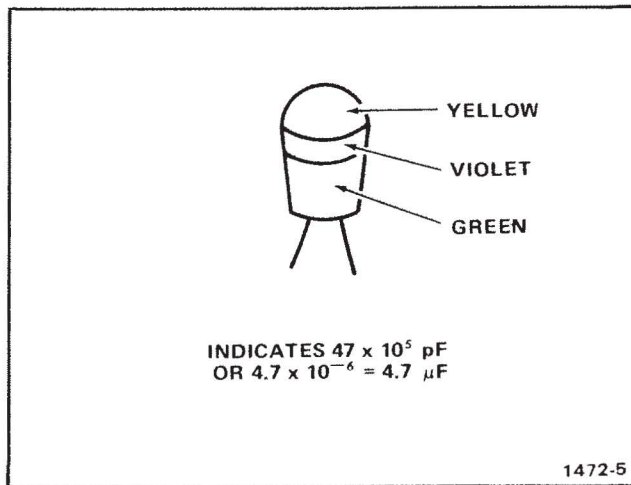

Fig. 4-2. Example of Electrolytic capacitor color code.
**Capacitor Identification.** Capacitor values of disc capacitors are marked on the capacitor body and electrolytic capacitor values are either marked on the capacitor body or are color coded (see Fig. 4-2).